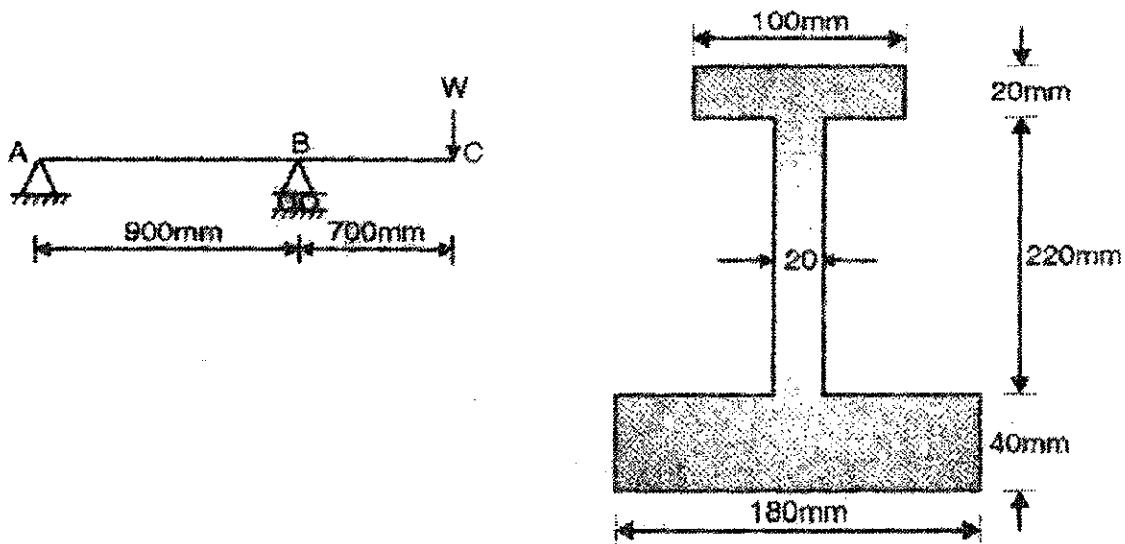

Fig. 8
8. (a) A simply supported beam with overhang is loaded with point load as shown in Fig. 8. The cross-section of beam is I-section. The allowable bending stresses in tension and compression are 150 Mpa and 100 Mpa. Find the safe load 'w' on the overhang. [10]